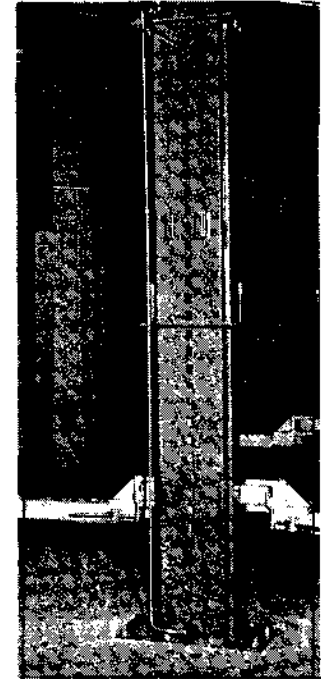

Fig. 52
39. Install angle support bracket to hole in top of post and secure with 1/2-13 X 1 1/4 hex screw, nut, and lockwasher. (See Fig. 52).